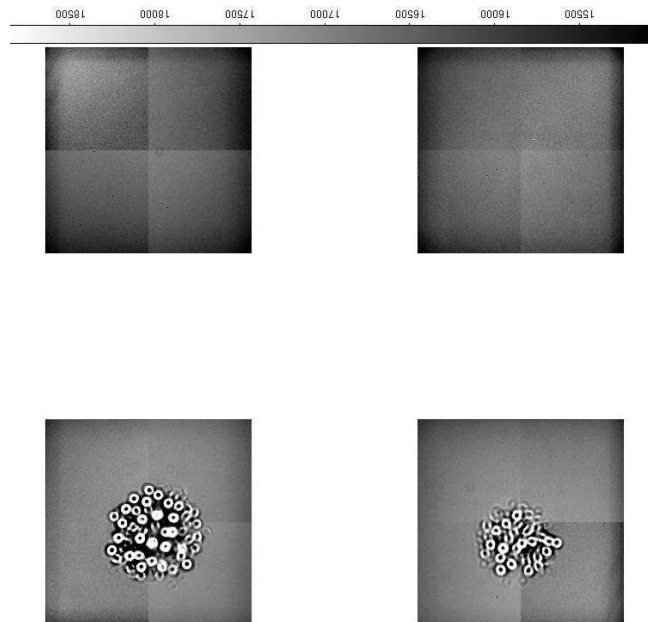

Figure 6.3: Humidity condensation on the LAIWO CCDs.
10) When the plug sealing the nitrogen filling hole of LAIWO is not placed properly and tightly the vapors of the liquid nitrogen are running away from this hole instead of going through the tube to the upper window of the CCD. Thus, no nitrogen gas is filling the area around the window of the CCDs and condensation is creating there fast. Figure 6.3 shows an image of the LAIWO CCDs with the effect of humidity on two of them. If you happen to observe with LAIWO and you get such an image you need to check the seal of the nitrogen filling hole to make sure it is properly sealed.